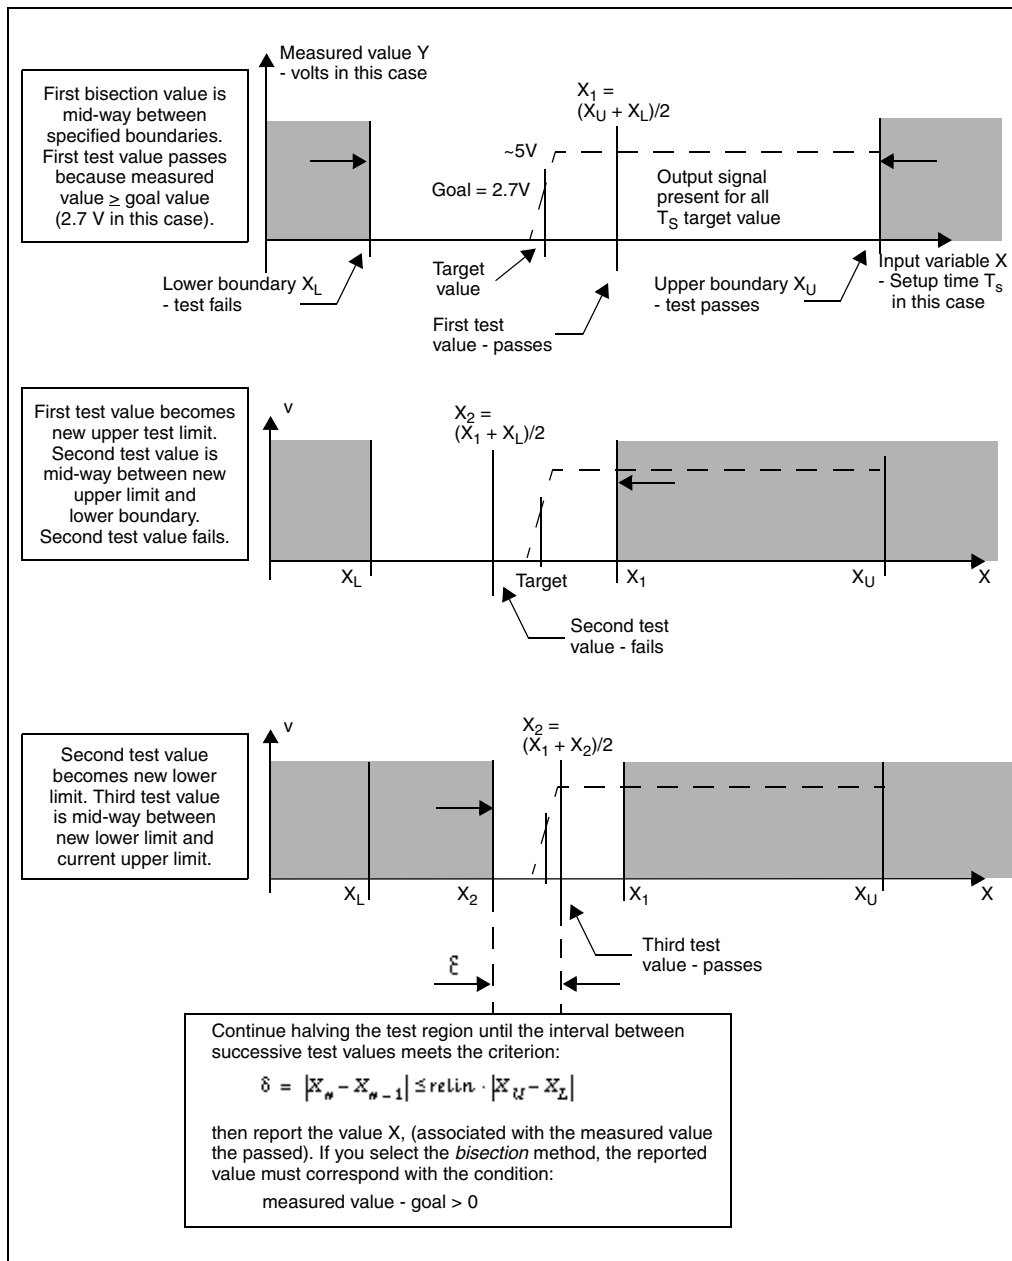

Figure 180 Bisection Example for Three Iterations
5. To start the binary search you specify the lower and upper boundaries. The program tests the point midway between the lower and upper boundaries (see Figure 180 on page 944).
Figure 180 on page 944 and Figure 181 on page 945 show the results of this demo. HSPICE does not directly optimize the setup time, but extracts it from its relationship with the `DelayTime` parameter (the time before the data signal), which is the parameter to optimize.